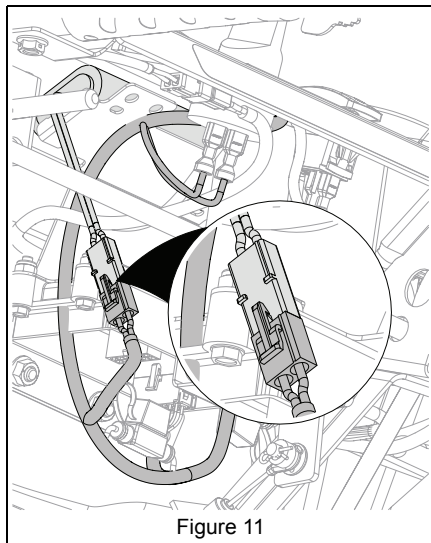

Figure 11
2. Ensure the EFI battery located under the control panel is connected. and fully charged. See Figure 11.